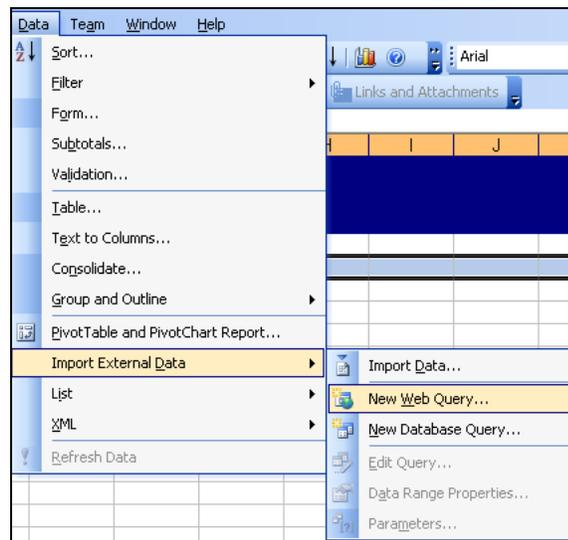

Figure 25: New Web Query (Excel 2003)
- Note:* In Microsoft Excel 2003, go to **Data > Import External Data > New Web Query** (Figure 25).